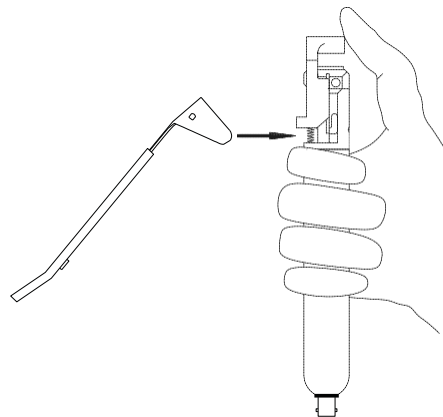
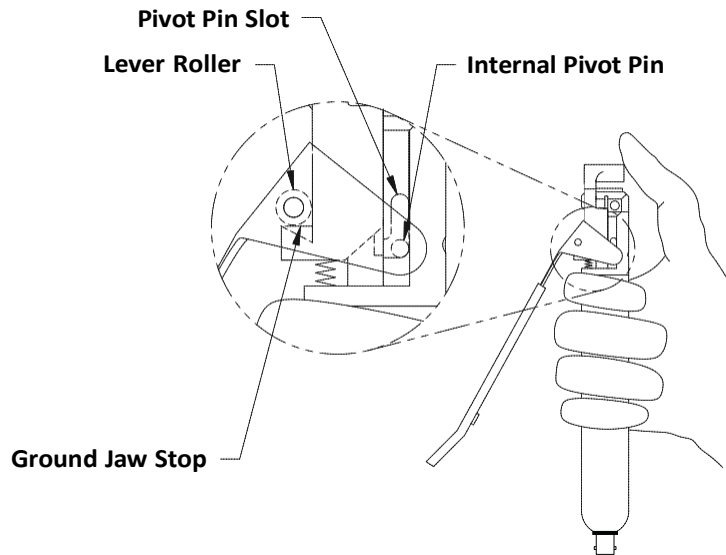

Figure 4-12, Installation of Lever on to Sealing Head
Figure 4-13, Installation of Lever into Pivot Slots
2. With thumb, slide ground jaw down the grooves in the RF jaw, maintaining constant pressure to depress the ground jaw spring. Replace lever so that its internal pivot pins slide in beneath the bottom edge of the ground jaw and are positioned to enter into the pivot pin slots. See Figure 4-12, Installation of Lever on to Sealing Head and Figure 4-13, Installation of Lever into Pivot Slots. A small adjustment of the position of the ground jaw may be required to engage the lever. *Be sure the RF power cable is disconnected from the Sealing Head!*
3. Continue to hold the ground jaw in its retracted position and tip the lever up so the lever roller clears the ground jaw stop. Small adjustments in thumb pressure may be required to accomplish this action. Firmly push the lever to engage its internal pivot pins into their respective slots while slowly releasing ground jaw. See detail in Figure 4-13, Installation of Lever into Pivot Slots.